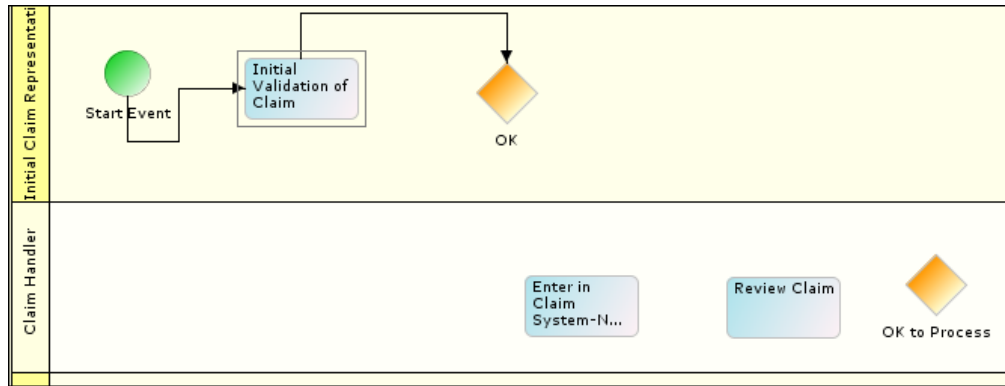

Figure 20: Connecting BPMN Elements
2. Drag the cursor between two BPMN elements. Both BPMN elements are connected with the selected flows (see Figure 20).